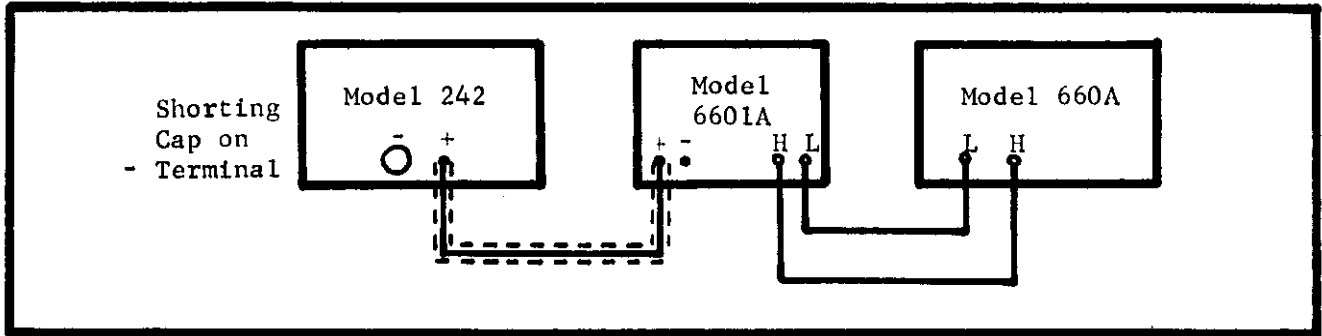

FIGURE 7. Block Diagram for Calibrating Model 242 Output Accuracy. See Table 3 for equipment. Use coaxial cable to connect the Models 242 and 6601A.
a. Set up the Model 242 according to Figure 7. Use the Model 660A Guarded dc Differential Voltmeter ($\pm 0.02\%$ limit of error) and the Model 6601A Divider ($\pm 0.01\%$ limit of error). Total limit of error of this system is $\pm 0.03\%$. The Model 660A Differential Voltmeter may be used directly for output voltages from 300 to 500 volts.